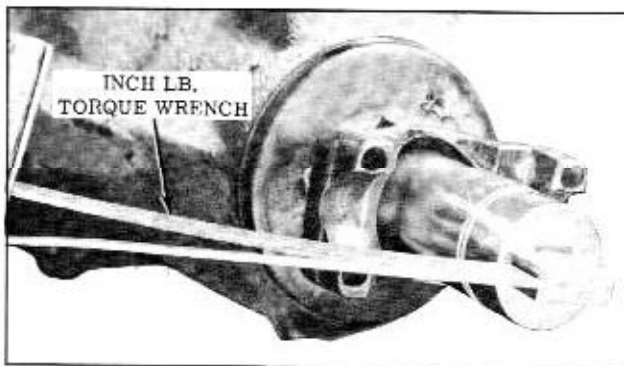

Figure 6-16 Pinion Gear Preload
5. With an in. lb. torque wrench, and Tool J-8614 removed, rotate pinion gear. Reading should be 20-35 in. lbs. with new bearings and 15-25 in. lbs. with old bearings. (Fig. 6-16)